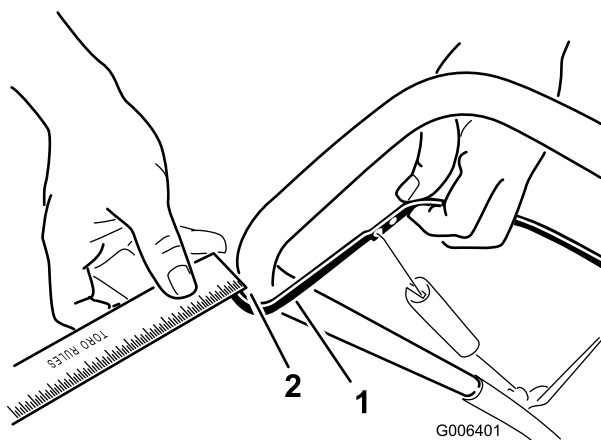

Figure 20
Move the control bar back toward the handle to remove the slack in the control cable (Figure 20).
Note: Ensure that a 1/16-inch to 1/8-inch (2 mm to 3 mm) gap exists between the control bar and the handle (Figure 20).
2. Move the Z-fitting to a higher or lower hole on the adjuster link as needed to obtain the 1/16-inch to 1/8-inch (2 mm to 3 mm) gap between the control bar and the handle (Figure 20).